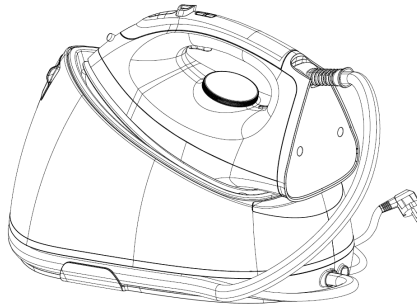

Fig.5
When not in use, the steam supply hose and power cord can be wound along the cord winding groove for storage (see Fig.5).
(1) If the appliance keeps spraying water after the “Clean” function is activated, please press the steam trigger to make the appliance enter into the cleaning mode.
(2) If the cleaning indicator keeps blinking and the appliance does not perform cleaning after the “Clean” function is activated, please check and ensure that the temperature dial be turned to the “MAX” setting. And the appliance will continue performing cleaning when the temperature dial is turned to the “MAX” setting.
5. When not in use, the steam supply hose and power cord can be folded well and stored in their respective storage boxes (See Fig.5).